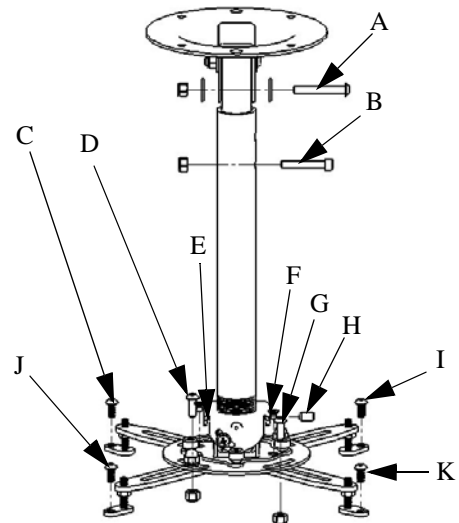

Figure 12. Remove and Replace Screws and Set Screw For UPA-1002 & UPA-1003
3. For model UPA-1002 and UPA-1003, remove 11 screws (A through K) (see Figure 12).